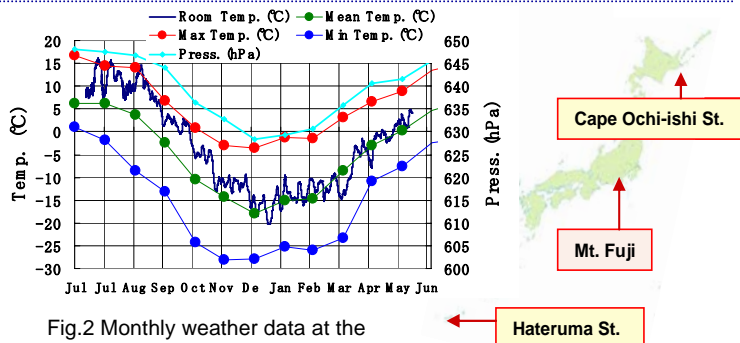

Fig.2 Monthly weather data at the summit of Mt. Fuji [2008-2009] (JMA)
- (No power supply, accessible only in Jul and Aug, Low Temp (Fig. 2))